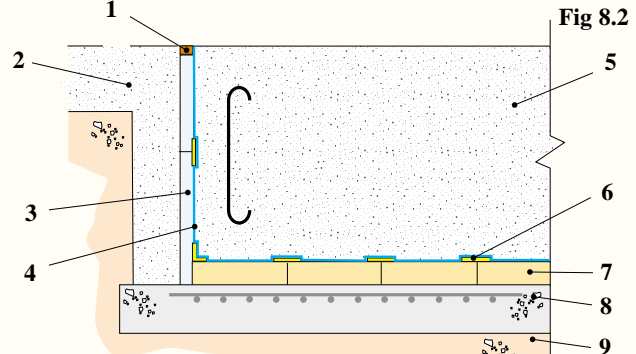

Fig 8.2
- 2) Reinforced impermeable concrete to sides and base of pit. (Fig 8.2) Thickness and concrete specification to be determined by ground and loading conditions.*
- 8) Reinforced concrete pit base.* (Fig 8.2)